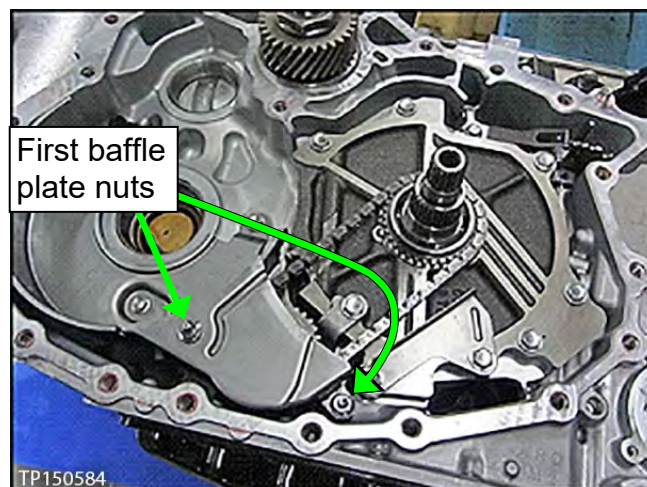

Figure 80
16. Install the first baffle plate with related nuts (see Figure 80).